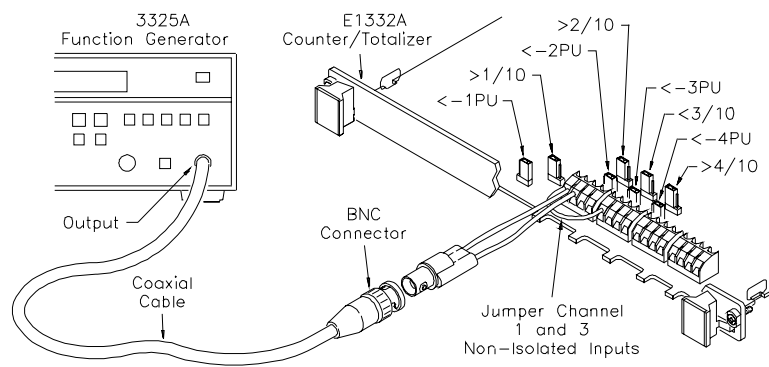

Figure 4-9. Period Average Test Setup
1. Connect the equipment as shown in Figure 4-9.